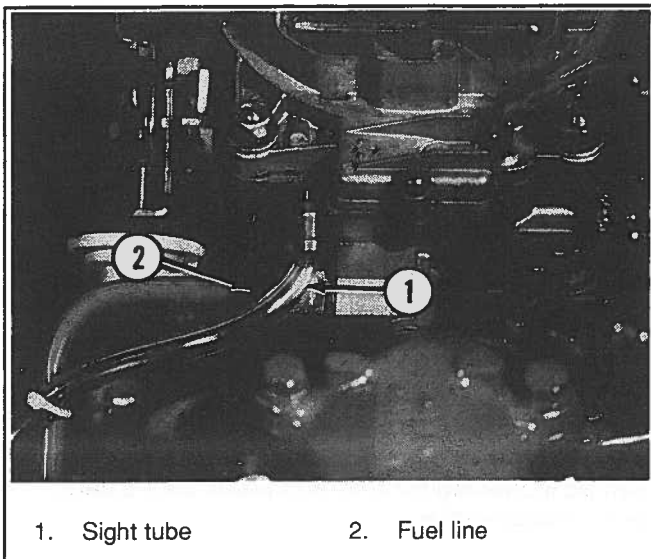

Figure 7-13. Removing Sight Tube And Fuel Line
5. Disconnect fuel line (Figure 7-13).